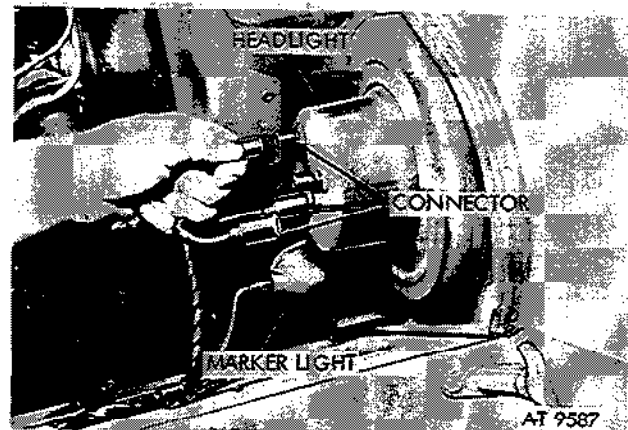
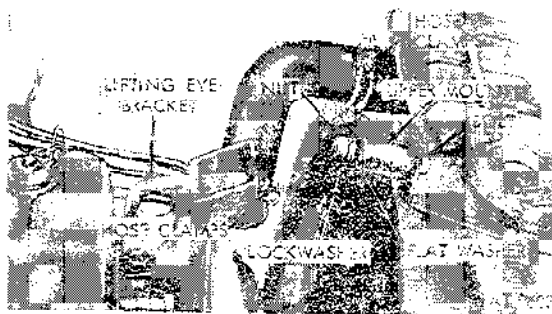

Figure 2-48. Headlight and marker light connectors.
Figure 2-53. Radiator removal.
(1) Remove headlight connectors on all models, and marker light connectors on M151, M151A1, M151A1C, and M718 models (fig. 2-48).
(7) Loosen nut, lockwasher, and flat washer and slip radiator upper mount (rubber) from engine lifting eye bracket (fig. 2-53).
(8) Remove radiator.
(1) Refer to figure 2-48 through figure 2-53. The following attaching parts are to be torqued to the values shown: